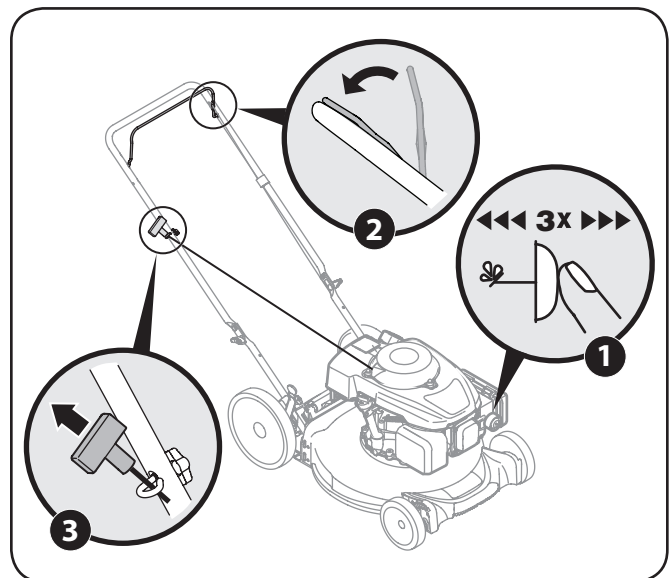

Figure 5-2
1. Push primer three times. Wait about two seconds between each push. See Figure 5-2. In temperature below 50°F, prime five times. After the engine is warmed up, one prime may be needed for all temperatures.
3. Pull the recoil starter lightly until resistance is felt, then pull rapidly to overcome compression, prevent kickback, and start the engine. Repeat if necessary. See Figure 5-2.